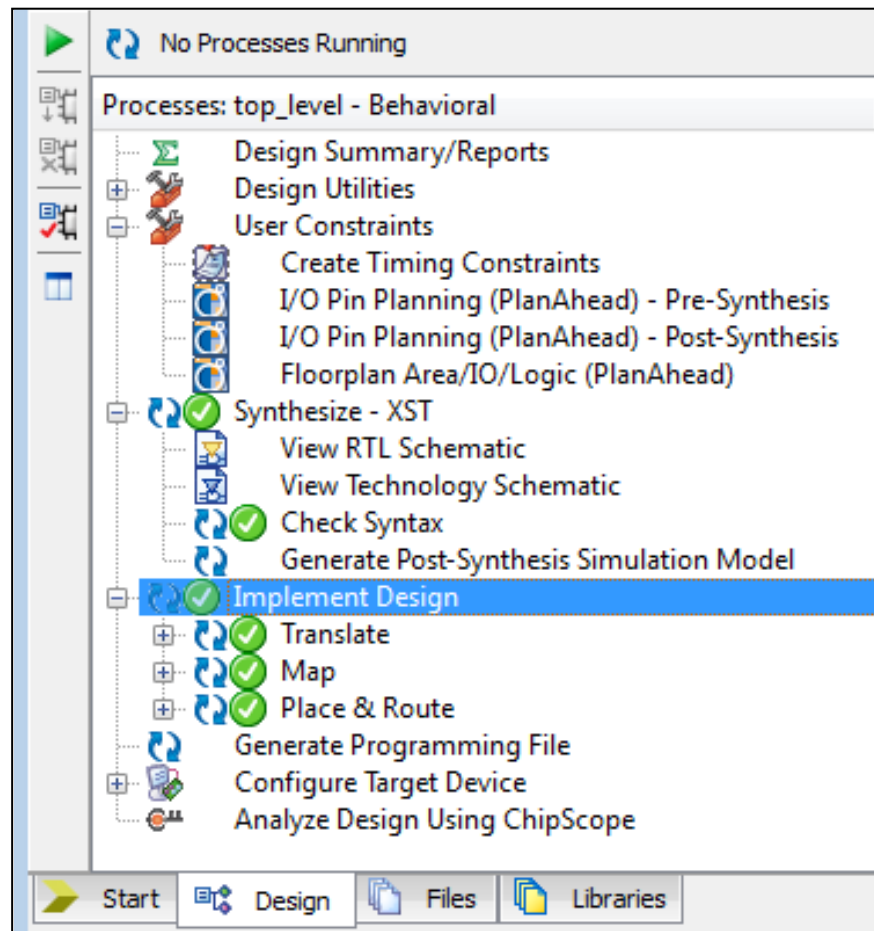

Figure 3.23: Portion of Project Navigator screen, with Implement Design expanded, after Translate, Map and Place & Route have successfully been run.
2. Double-click on Implement Design. This will first cause Synthesize – XST to run. Next, Translate, Map and Place & Route will run in turn. As each stage is completed, a green tick will appear next to it. After all three stages are complete, the Project Navigator screen will appear as shown in Figure 3.23.